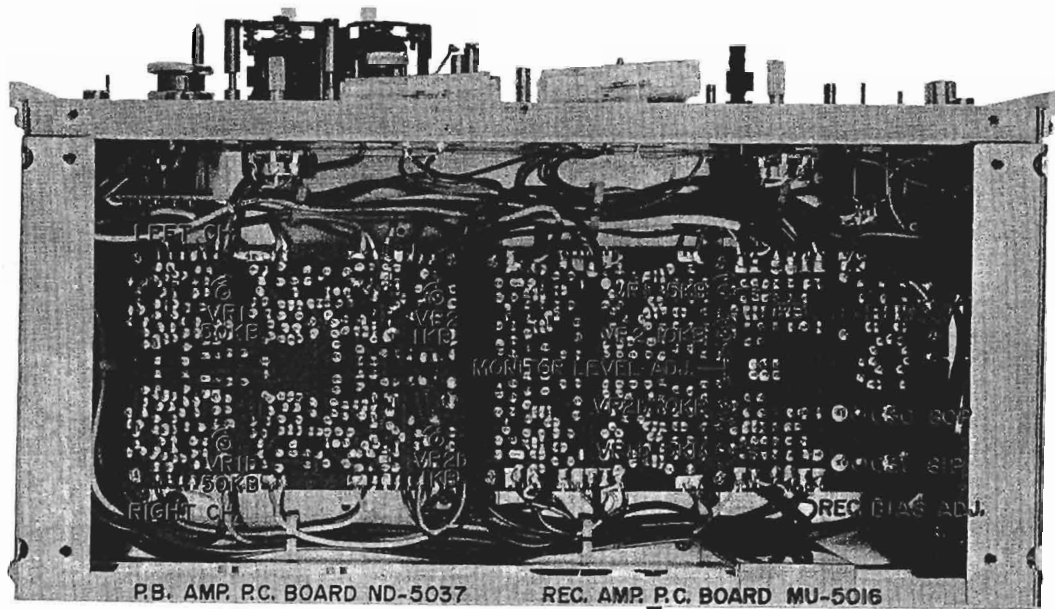

Fig. 19
- 4) Adjust Playback Amp. P.C. Board semi-fixed resistors VR1 50 kB (left ch.), and VR1b 50 kB (right ch.) shown in Fig. 19 to obtain a high sensitivity V.T.V.M. indication of 4 dB (1.228V) line output level on both channels.
After playback level adjustments has been completed, with the playback level of both channels at 4 dB, adjust P.B. Amp. P.C. Board semi-fixed resistors VR2 1 k Ω (left ch.) and VR2b 1 k Ω (right ch.) shown in Fig. 19 to obtain a left/right VU meter indication of 0 VU.
- 5) Adjust Recording Amp. P.C. Board semi-fixed resistors VR2 10 k Ω (left ch.) and VR2b 10 k Ω (right ch.) shown in Fig. 19 to obtain a high sensitivity V.T.V.M. indication of 4 dB (1.228V) line output level on both channels.
- 7) Adjust Recording Amp. P.C. Board semi-fixed resistors VR1 5 k Ω (left ch.) and VR1b 5 k Ω (right ch.) shown in Fig. 19 to obtain a high sensitivity V.T.V.M. indication of 4 dB (1.228V) line output level on both channels.
- 6) Adjust Recording Amp. P.C. Board Trimmer Condenser C30 80p max (left ch.) and C31 80p max (right ch.) shown in Fig. 19 until the same high sensitivity V.T.V.M. indication level is obtained on both the left and right channel at the two frequencies described in Items 5-4) and 5-5) above.